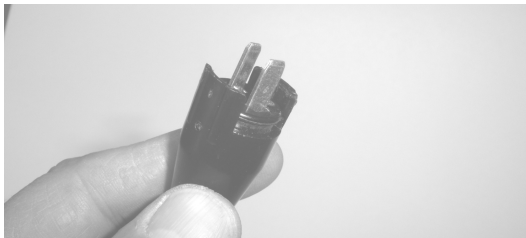

Figure 6—Two-pin reed switch connector.
3. Connect an ohmmeter between the two reed switch pins (**Figure 6**). The ohmmeter should indicate no continuity (infinity).